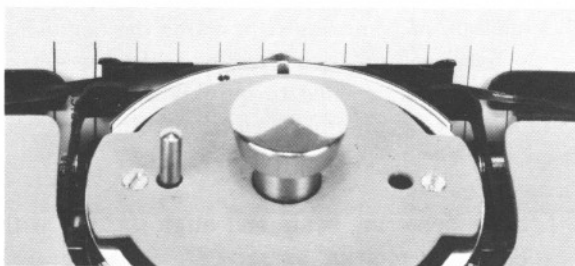

Figure 70
4. Place copy back in machine, turning one quarter turn so top of form is toward left side of carriage (Figure 70). Horizontal rules on form now become vertical rules.